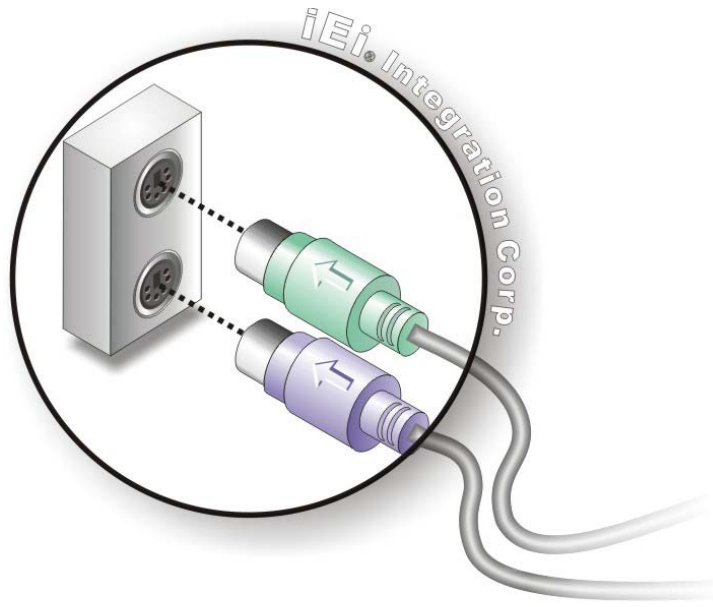

Figure 4-23: PS/2 Keyboard/Mouse Connector
Step 2: Insert the keyboard/mouse connector. Insert a PS/2 keyboard or mouse connector into the appropriate PS/2 connector on the external peripheral interface connector. See **Figure 4-23**.